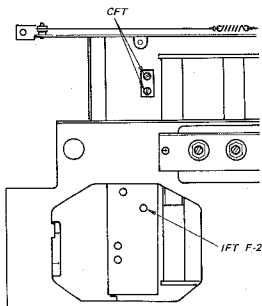

Fig. 3-4. Adjustment locations
*2. IFT F-2 is unable to adjust from rear part of the set. Remove the front panel and adjust IFT F-2 from front part. (See Fig. 3-4).
Modulate the rf signal with 400 Hz a-m modulation. Vary the rf signal around 455 kHz to find i-f frequency of the set. The dial of the rf signal generator shows i-f frequency of the set when the output power of the speaker becomes maximum. If the peak of the output power is not found around 455 kHz, adjust the ceramic filter cores after removing front panel and dial drum as shown in Fig. 3-4.